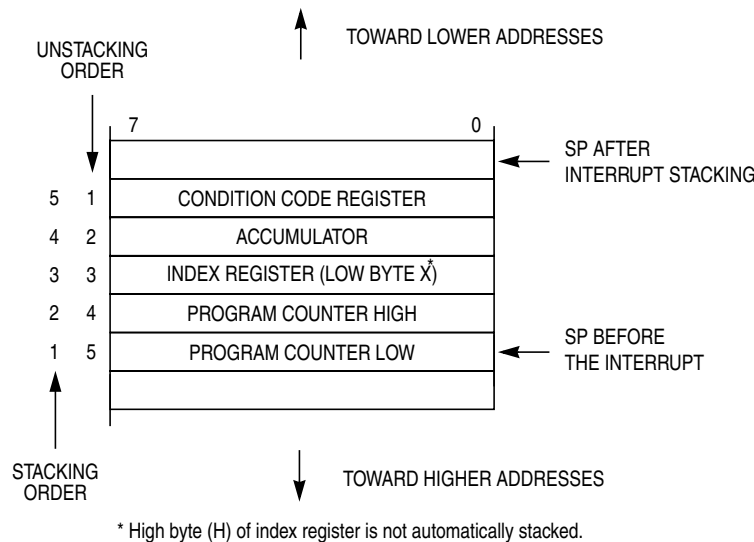

**Figure 5-1. Interrupt Stack Frame**
Figure 5-1 shows the contents and organization of a stack frame. Before the interrupt, the stack pointer (SP) points at the next available byte location on the stack. The current values of CPU registers are stored on the stack starting with the low-order byte of the program counter (PCL) and ending with the CCR. After stacking, the SP points at the next available location on the stack, which is the address that is one less than the address where the CCR was saved. The PC value that is stacked is the address of the instruction in the main program that would have executed next if the interrupt had not occurred.